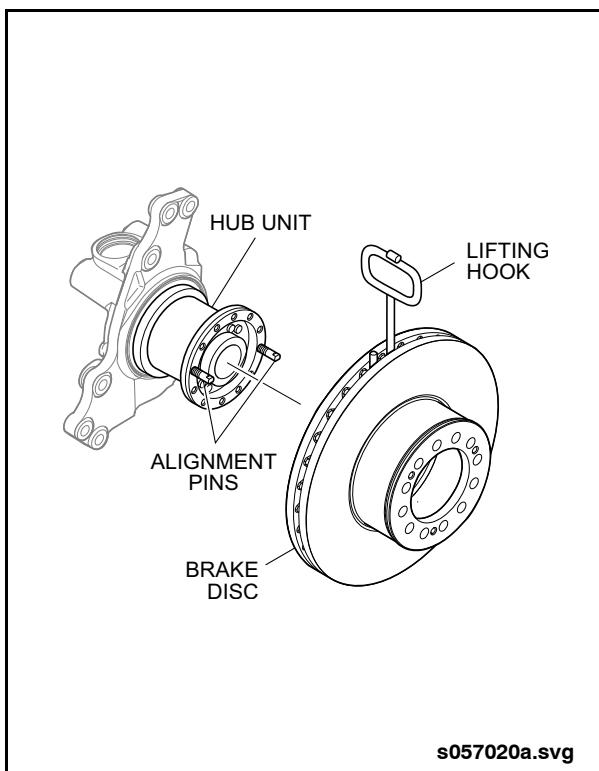

Fig. 1-72: Brake Disc Removal
4. Thread the alignment pins (Item 14 from special tools list) through the brake disc into opposite facing tapped holes in the hub-unit. See "Fig. 1-72: Brake Disc Removal" on page 73.